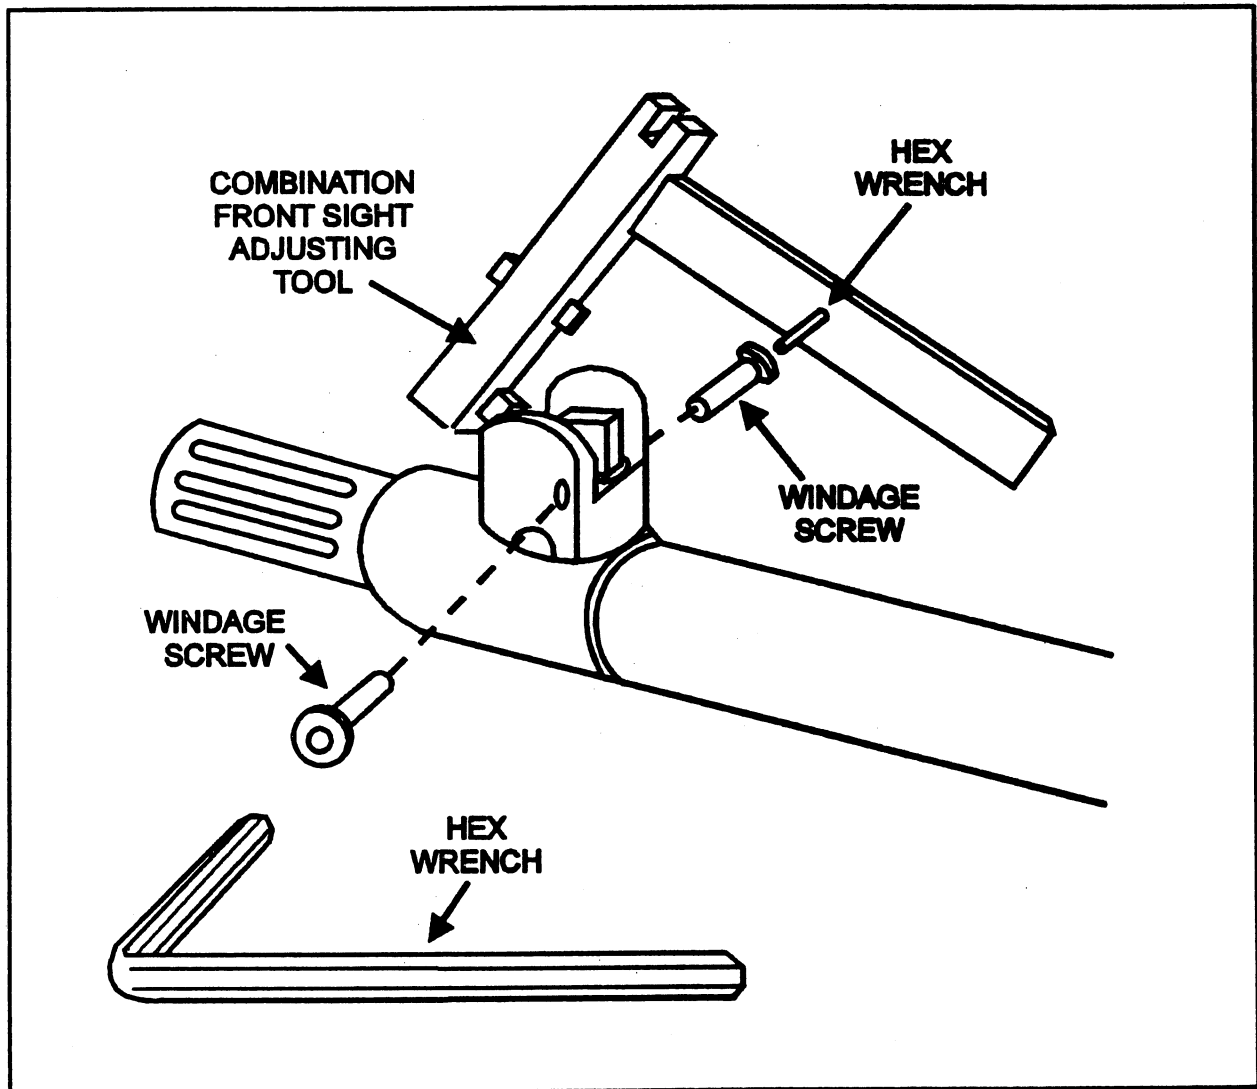

Fig 1-3. Changing windage with socket head screw.
- (2) **Windage.** You can change the windage by using the hex wrench on the combination front sight adjusting tool. If the tool does not tightly fit the socket heads of the windage adjustment screws, use any other hex wrench of proper size (see fig 1-3).